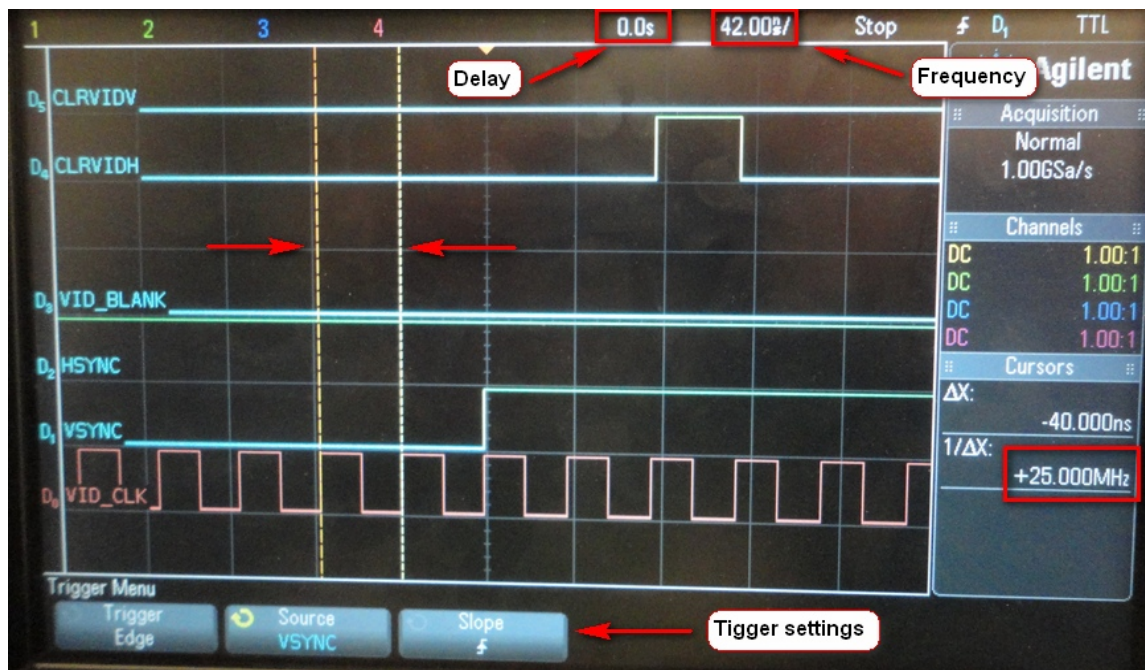

Figure 42-Clock frequency measurements
The result should look similar to **Figure 42**.
- The result should be around 25 MHz. See **Figure 42**.